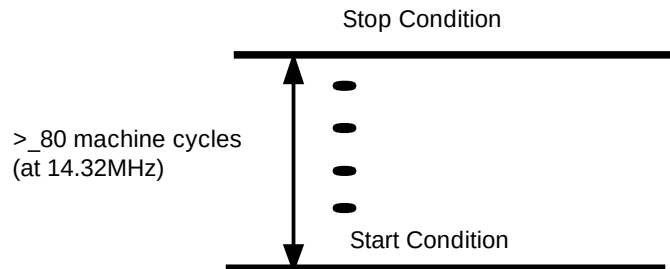

Figure 1-7 Start and Stop Conditions
2. figure 1-7 shows the software method of attaining the bus free time indicated above. The microcontroller requires 80 machine cycles from the time the stop condition occurs to the time the next start condition occurs.